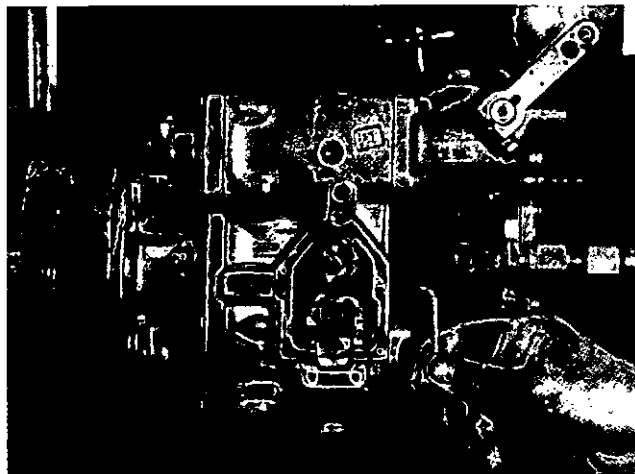

Fig. 10-31, (F5339). Set the throttle leakage screw.
6. Check the leakage with a light and heavy lever load. If the leakage is changed by the additional pressure in the throttle closed position, set the leakage under these conditions, Fig. 10-31.